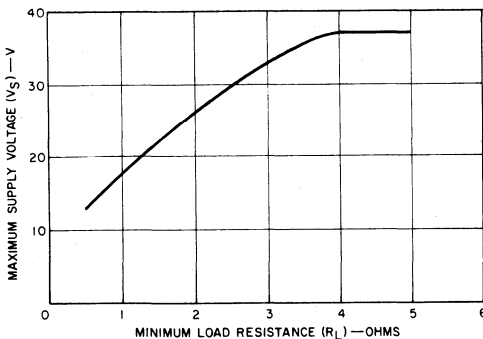

Fig. 2 — Maximum allowable supply voltage vs. load resistance for type HC1000.
**AC Operation.** The maximum allowable room-temperature peak power dissipation of 88 watts per output device mentioned above takes into account the thermal resistance, thermal capacitance, and junction temperature of each output transistor of the HC1000. This limitation is indicated in the curve of maximum allowable supply voltage as a function of load resistance shown in Fig. 2. This curve cannot be used for frequencies below 40 Hz, however, because the thermal capacitances of the output transistors become charged and cause the peak junction temperature to exceed the maximum limit.